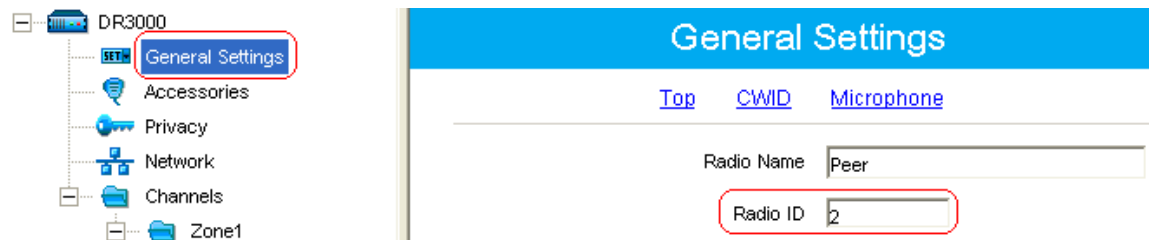

Figure 6.5
- 1) Read the Peer repeater using the CPS, navigate to the General Settings screen and enter a Radio ID. Ensure that the Radio ID for the Peer repeater is NOT the same as the radio ID for the Master repeater. For the example in Figure 6.5 below, the Peer repeater uses a Radio ID of 2.